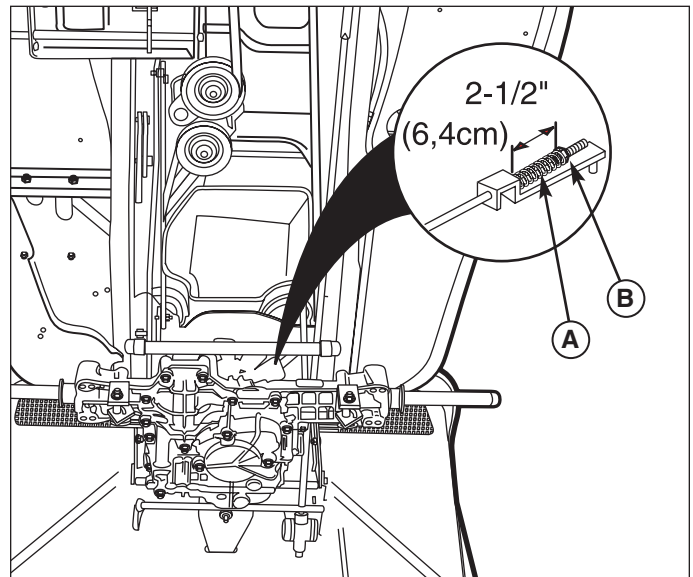

Figure 31. Brake Spring Adjustment
3. Locate the brake spring (A, Figure 31) and adjustment nut (B).
If the spring is not within this range, turn the adjustment nut (B, Figure 31) to compress or release the spring.